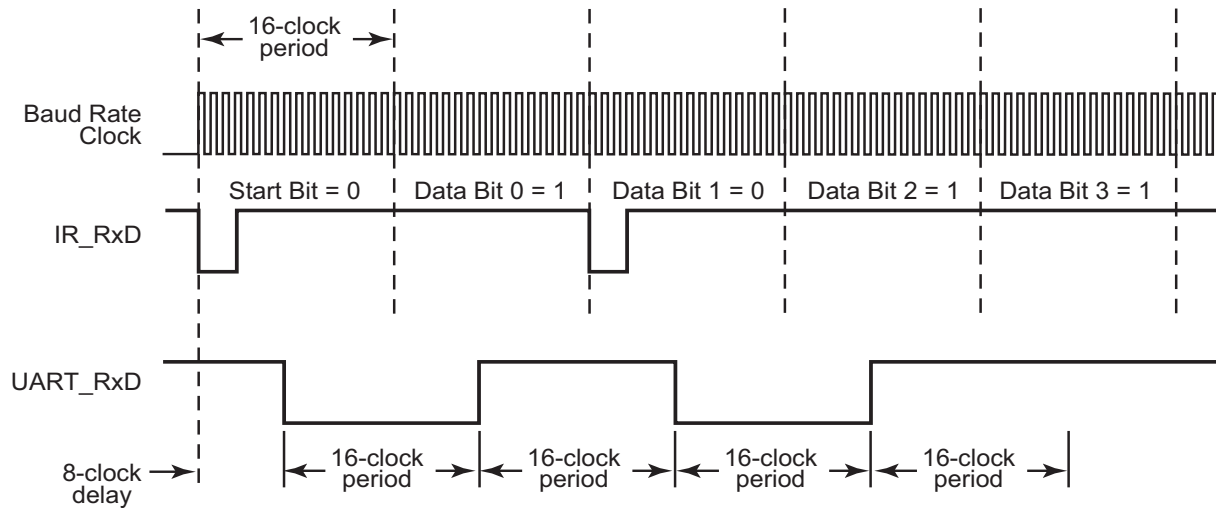

**Figure 38. Infrared Data Transmission**
The data to be transmitted via the IR transceiver is the data sent to UART0. The UART transmit signal, TxD, and Baud Rate Clock are used by the endec to generate the modulation signal, IR\_TxD, that drives the infrared transceiver. Each UART bit is 16 clocks wide. If the data to be transmitted is a logical 1 (High), the IR\_TxD signal remains Low (0) for the full 16-clock period. If the data to be transmitted is a logical 0, a 3-clock High (1) pulse is output following a 7-clock Low (0) period. Following the 3-clock High pulse, a 6-clock Low pulse completes the full 16-clock data period. Data transmission is displayed in Figure 38. During data transmission, the IR receive function must be disabled by clearing the IR\_RxEN bit in the IR\_CTL reg to 0 to prevent transmitter-to-receiver crosstalk.